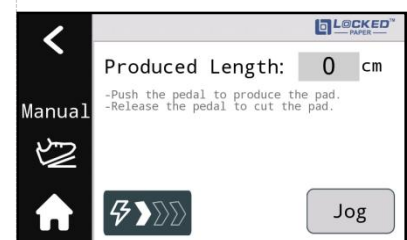

Figure 1
- 1) Tap in the homepage to enter this mode. (Figure 1).